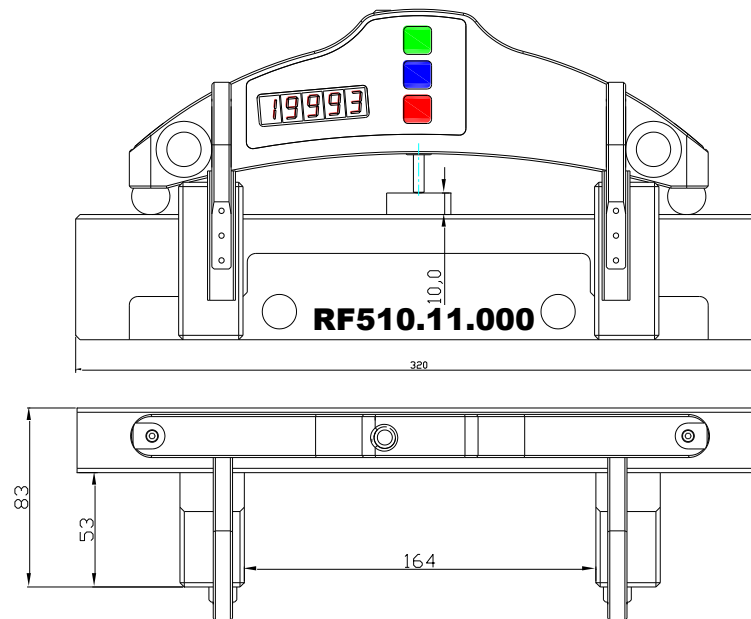

Figure 2
Flat block RF510.11.000 (fig.2)	-
- Calibration plate with the deviation from flatness less than $\pm 0,5 \mu\text{m}$ for 250 mm length (or Flat block RF510.11.000, figure 2);